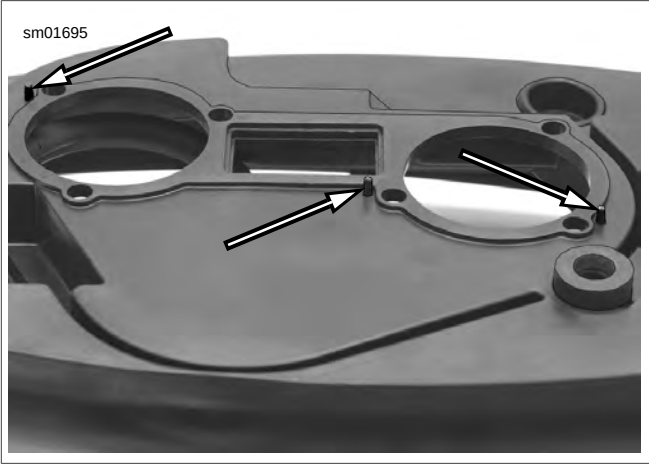

Figure 1-13. Air Filter Gasket Alignment Pins (3)
2. See Figure 1-13. Inspect and replace bottom air box gasket if damaged. Check gasket position on air filter bottom. Three pins on mating surface align gasket.